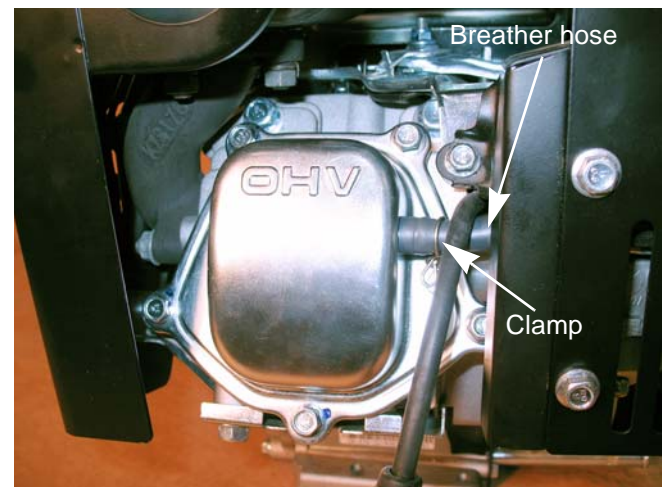

Figure 5.6
2. Squeeze the spring clamp that secures the breather hose to the valve cover nipple and slide it back. Then remove the breather hose from the valve cover nipple. See Figure 5.6.